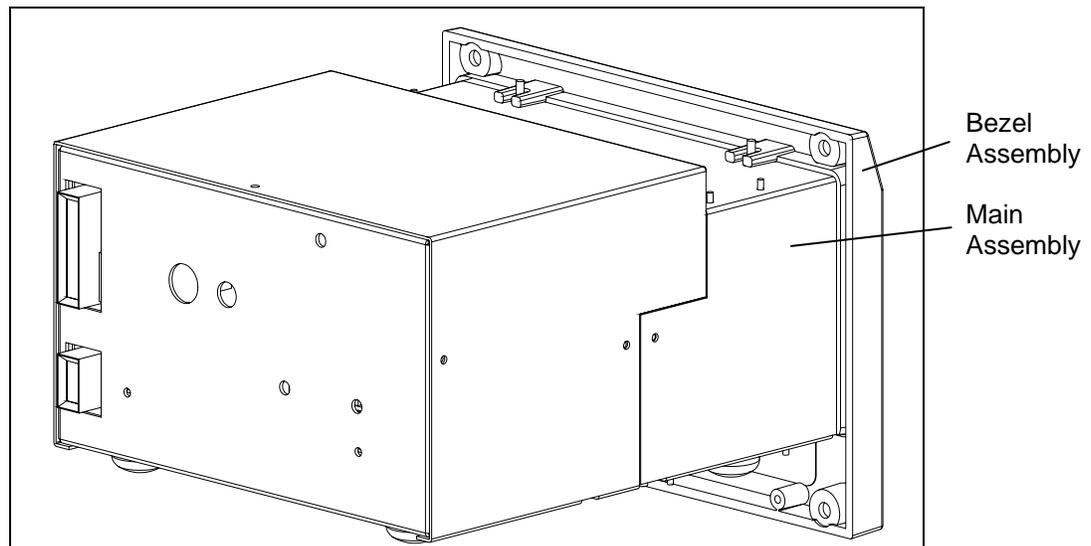

Figure 13-8 Bezel Assembly
- 1 The Bezel Assembly is mounted to the front cover (Figure 13-8) via four 4 M4 Hex Nuts and four M3 Flat washers.